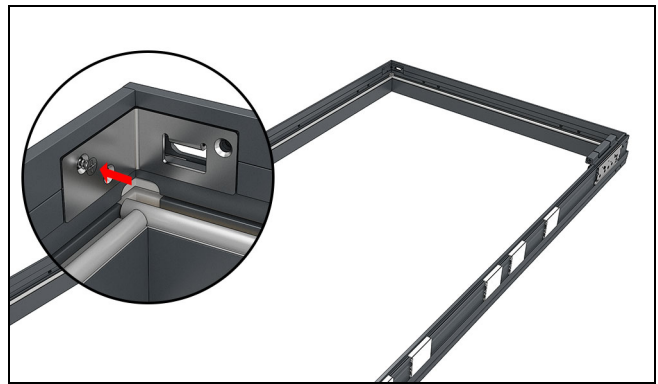

Figure 20
8. For X configurations, install the head jamb strike plate. Fasten with one screw #8 1/2" flat head screw on the jamb. The remaining holes will be used during installation. See Figure 20.